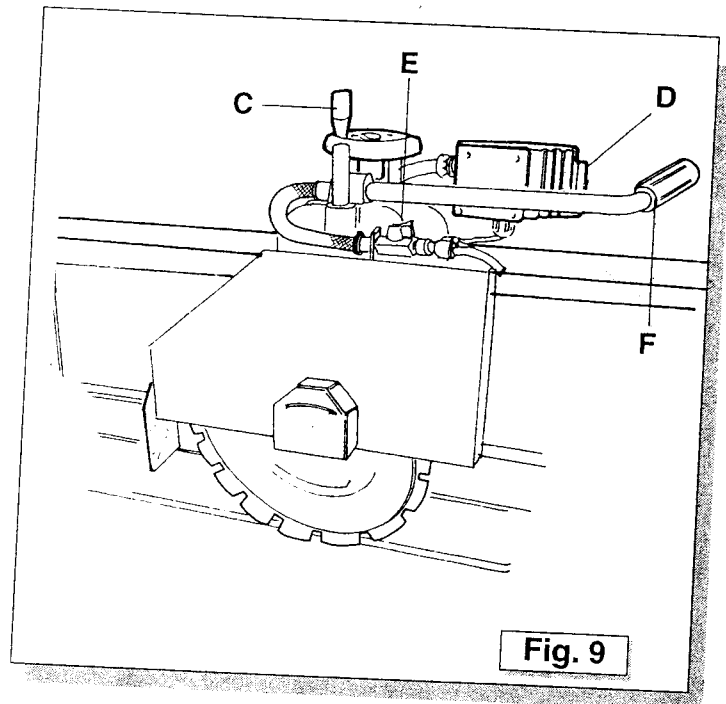

Fig. 9
- Lower/raise the handwheel C (Fig. 9) to adjust cutting height (FRS-51 only).
- To turn on the blade motor and water pump, push the "green" start button D (Fig. 9). Both the blade motor and water pump will start.
- Before starting the cutting operations, check for adequate water flow to the blade. Make adjustment to flow valve E (Fig. 9) as needed.
- Pull handle F (Fig. 9) carefully to advance the cutting blade to and through the material.